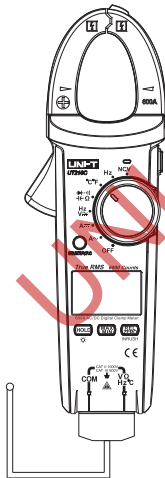

Figure 1 3
9. Frequency (UT216B/C only) (See Figure 1 2)
10. Temperature measurement (UT216C only) (see Figure 1 3)